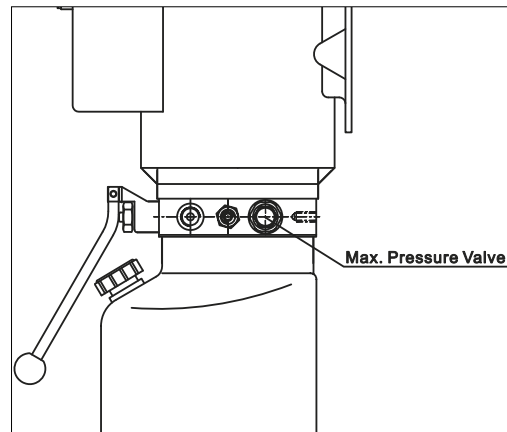

Fig. 12
- ◆ The maximum pressure valve **(Fig. 12)**, located on the hydraulic oil power unit, will trip if the lift is overloaded.